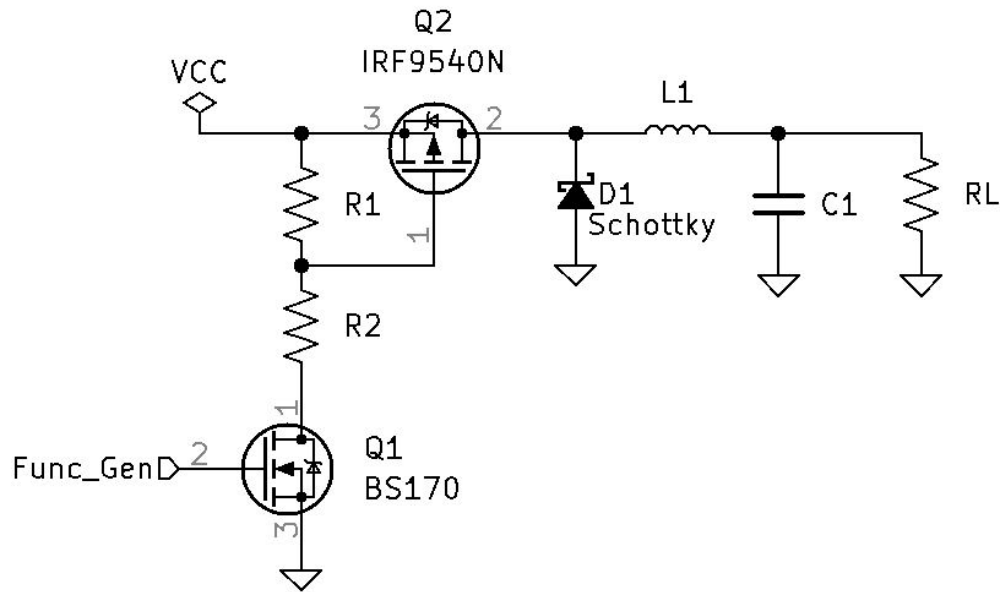

Figure 10.3: SMPS BUCK Discrete Circuit
1. See *SMPS BUCK Discrete Circuit* Figure 10.3.